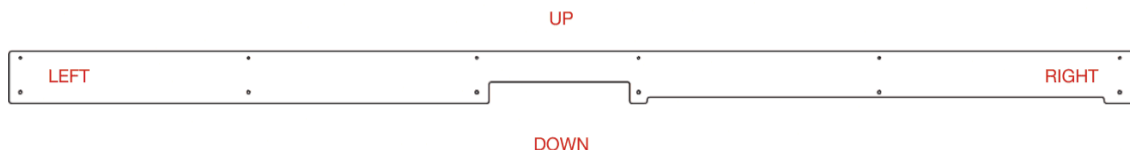

Figure 7 Upper flange #1 placement
- a. Prepare the positioning of the upper frame #1 for the exchanger, according to Figure 7